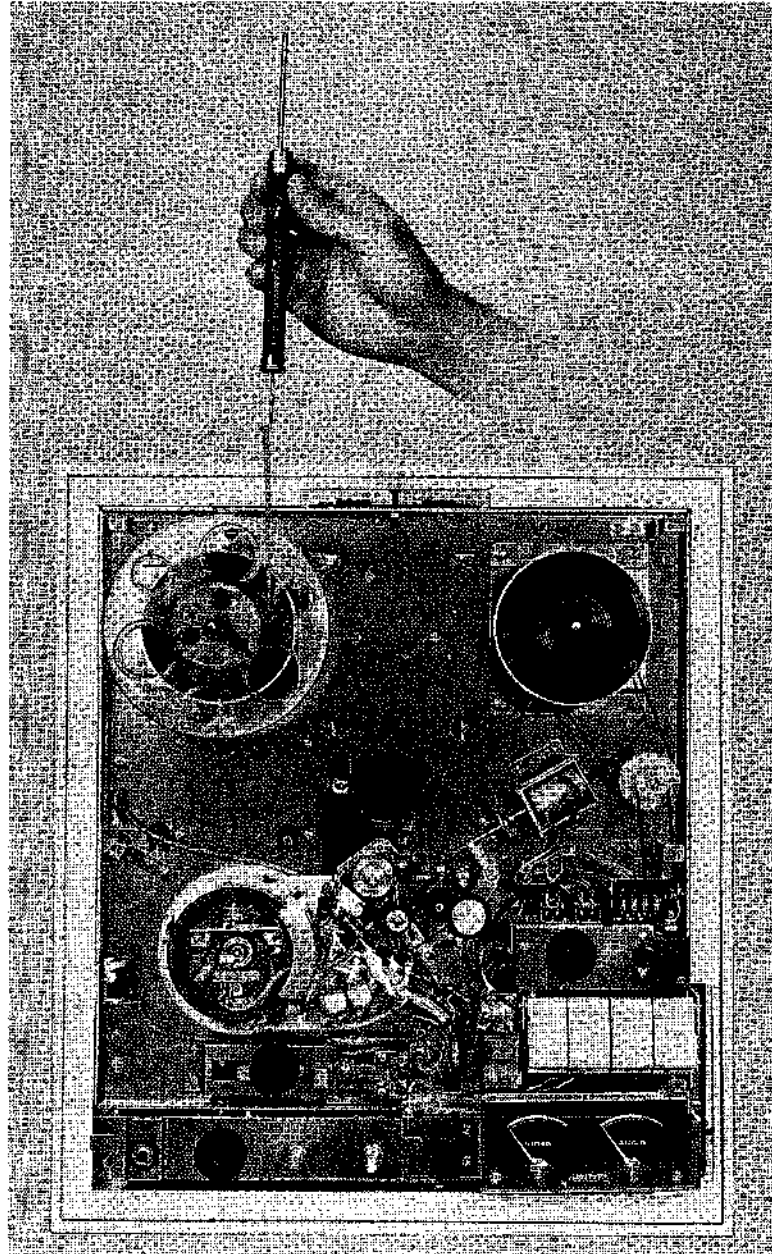

Fig. 6 Tape Hold Back Tension Measurement
- (b) As shown in Fig. 6, connect a 0 to 50 gram Spring Gauge to a 60 mm (2.36") diameter tape and measure Tape Hold Back Tension. (Playback Mode).